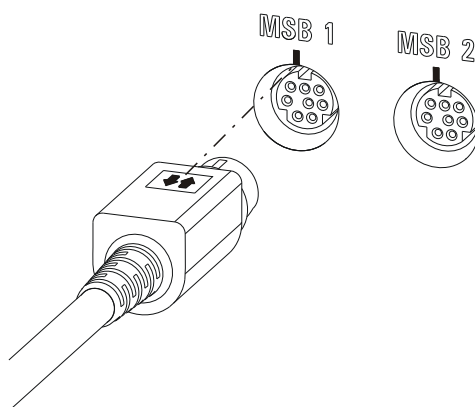

Figure 15 MSB connector
- When making the connection, take care to ensure that the flat part of the MSB plug marked with arrows is pointing in the direction of the marking on the MSB connector (see figure 15, page 24).